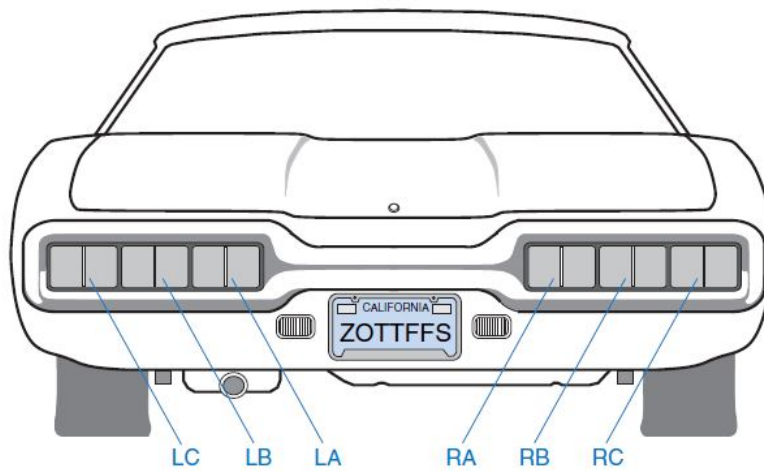
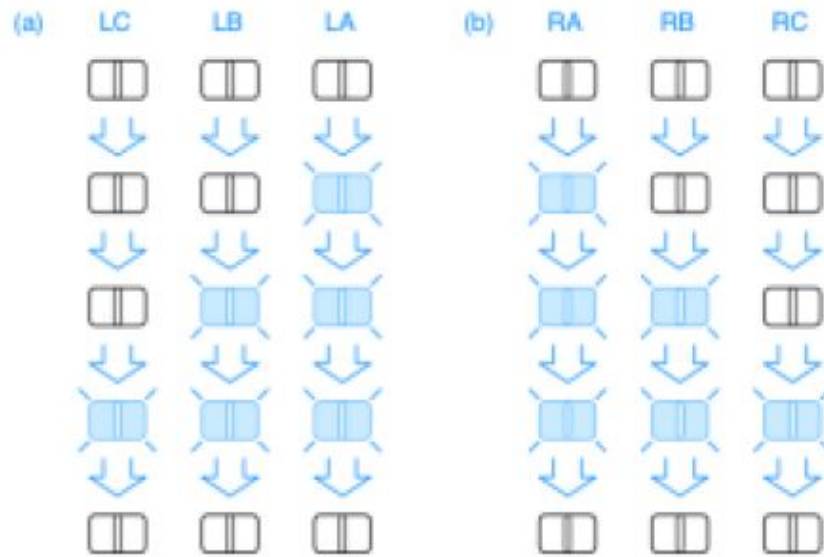

Figure 1: Thunderbird Tail Lights
Figure 2: Flashing Sequence (shaded lights are illuminated)
In this lab, we start with circuits with distinct states and design a finite state machine to control the tail lights of a 1965 Ford Thunderbird. There are three lights on each side that operate in sequence to indicate the direction of a turn. Figure 1 shows the taillights and Figure 2 shows the flashing sequence for (a) left turns and (b) right turns.
- When a left turn is requested, the machine goes through three states in which 1, 2, and 3 of the left hand lights are on, and then back to IDLE. Refer Figure 2.